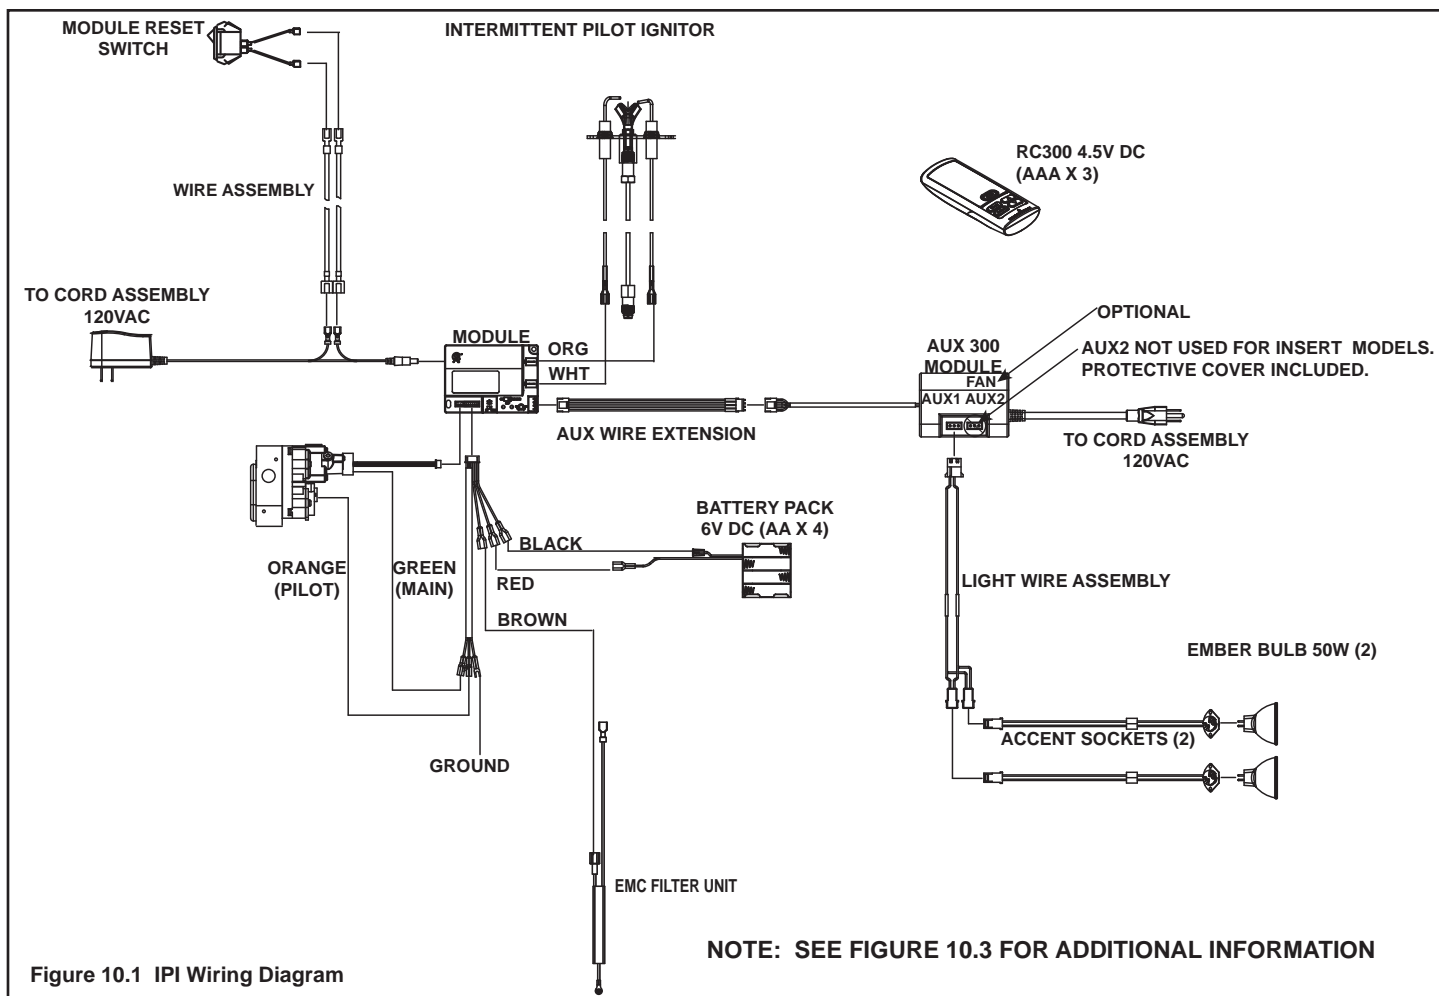

Figure 10.1 IPI Wiring Diagram
- Refer to Figure 10.1, IPI Wiring Diagram.
NOTE: SEE FIGURE 10.1 FOR ADDITIONAL INFORMATION